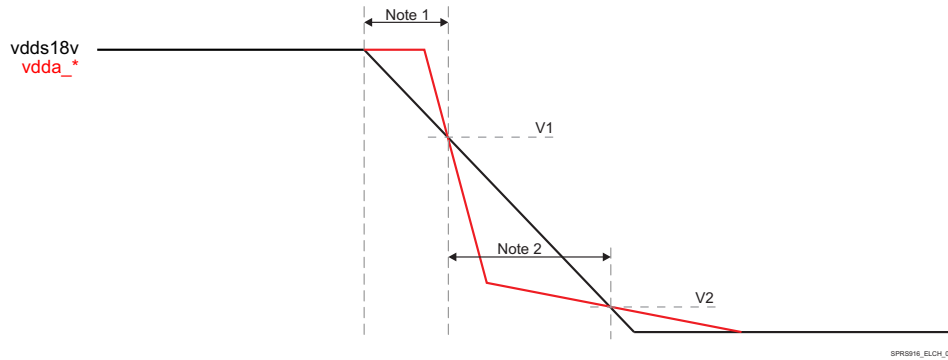

Figure 5-7. vdds18v and vdda\_\* Discharge Relationship(3)
(3) General timing diagram items:
- (4) porz signals must be asserted low for 100  $\mu$ s min to ensure SoC is set to a safe functional state before any voltage begins to ramp down.
- (5) vddshv\* domains supplied by 3.3 V:
- must not exceed vdds18v by more than 2 V during ramp down, see Figure 5-7 “vdds18v and vdda\_\* Discharge Relationship”.
- (6) vddshv\* domains supplied by 1.8 V:
- (7) vddshv8 domain:
- (8) RTC domains (vddshv5, vdd\_rtc, and vdda\_rtc):
- (9) vdda\_\* domains:
- must satisfy the vdds18v and vdda\_\* Discharge Relationship (see Figure 5-7) if vdda\_\* disable point is later or discharge rate is slower than vdds18v.
- (10) vdda33v\_usb\* domains:
- (11) vdd\_dspeve, vdd\_gpu, vdd\_iva, vdd\_mpu domains can ramp down before or concurrently with vdd.
- (12) vdd can ramp down concurrently or after with vdd\_dspeve, vdd\_gpu, vdd\_iva, vdd\_mpu domains.
- (13) vdds\_dds\* domains: